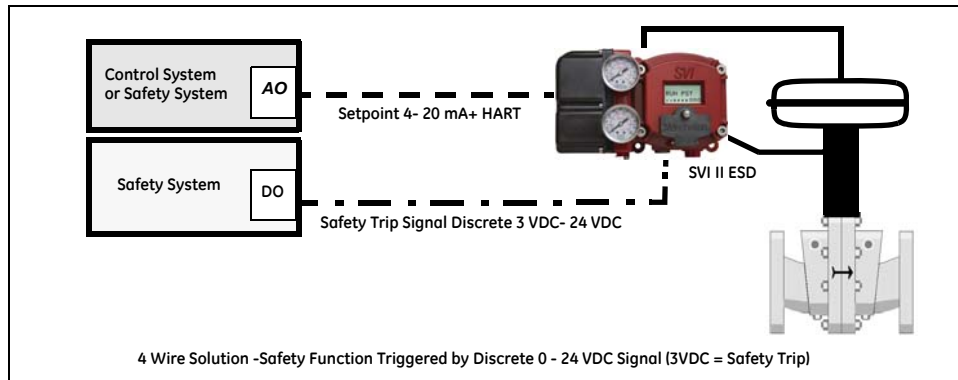

Figure 53 Analog with Discrete Safety Demand (A/DSD) Configuration
The Discrete Safety Demand configuration is: 24 VDC, power and trip signal with superimposed HART® communications (Figure 53).
The Analog with Discrete Demand configuration is: 4 - 20 mA power input with superimposed HART® communications for control system and 24 VDC 2 wire for Safety System (Figure 53).
1. Loosen the four (4) cover screws and remove the cover of the SVI II ESD.
2. Connect the +/- terminals of the current source to the 4 - 20 mA IN connector (on the terminal board). The current source + must connect to the terminal board connector +, and the same for -. See Figure 53 on page 78.